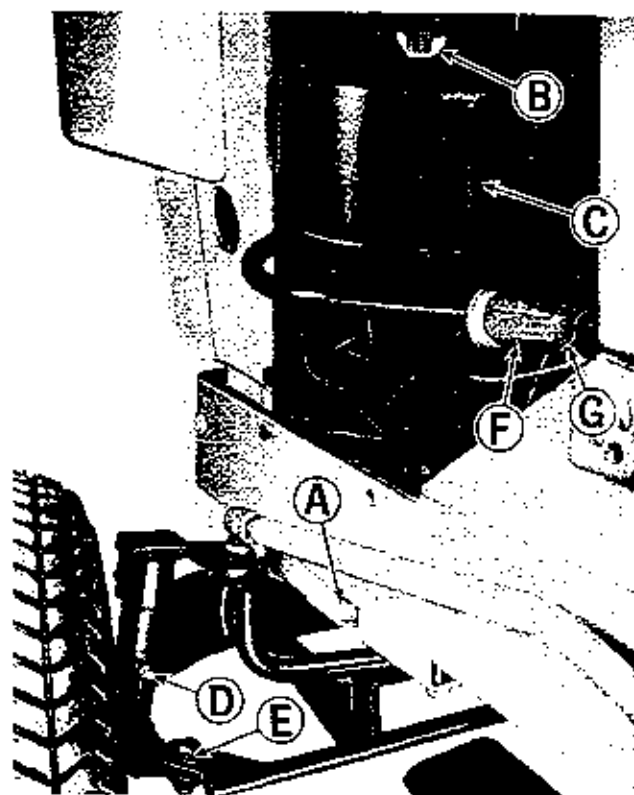

Figure 21. Left front of tractor.
2. See figure 21. Remove the drain plug (A) from the bottom of the engine base and allow the oil to drain.
1. See figure 21. Remove the wing nut (B) and cover (C) from the air cleaner unit.
5. See figure 21. Replace the air cleaner cover (C) and fasten it securely with wing nut (B).
Left Spindle	Figure 21, Item D
Left Tie Rod End	Figure 21, Item E
1. See figure 21. Remove wing nut (B) and cover (C) from the air cleaner.
7. See figure 21. Replace cover (C) and wing nut (B) and tighten securely.
**REPLACE FUEL FILTER:** See figure 21. Every 100 hours or more often under dirty field conditions, the fuel filter (F) should be replaced. **CAUTION: DO NOT REMOVE THE FUEL FILTER WHEN THE ENGINE IS HOT, AS SPILLED GASOLINE MAY IGNITE. USE CARE WHEN REMOVING AND INSTALLING CLAMPS (G). NOT TO SPREAD THEM ANY MORE THAN NECESSARY AS THEY MAY TAKE A SET AND NOT HOLD THE HOSE TO THE FILTER PROPERLY.**